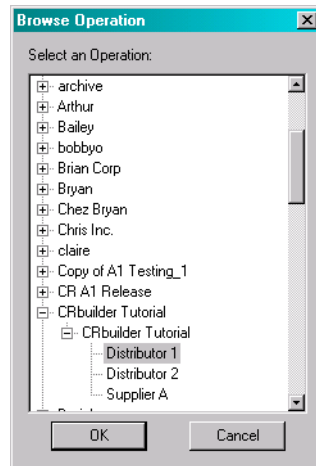

Figure 28-27. Click the Distributor 1 Operation from the CRbuilder Tutorial folder, then click **OK**.
- ❶ Click the Document tab, then select Syncx Data Interchange Operation from the **Document Type** drop-down list.
- ❷ In the **Appliance Name** field, type the name of your Appliance. This is the name of the appliance with the operations that you will be using in this tutorial.
- ❸ Type your user name in the **User Name** field.
- ❹ Type your password in the **Password** field.
- ❺ Select Predefined Operation from the **Operation Type** drop-down list.
- ❻ Click **Browse**. The Browse dialog will present you with a list of Operations to choose from. Click the Distributor 1 operation from the list. Compare your work to Figure 28-27, below.